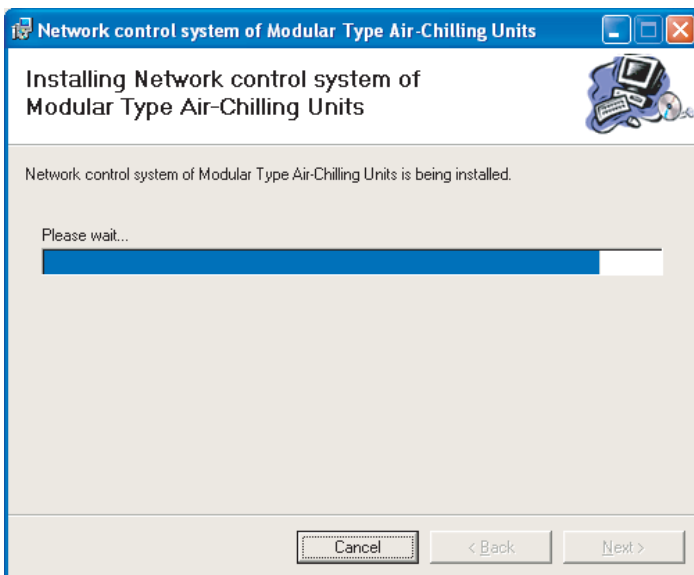
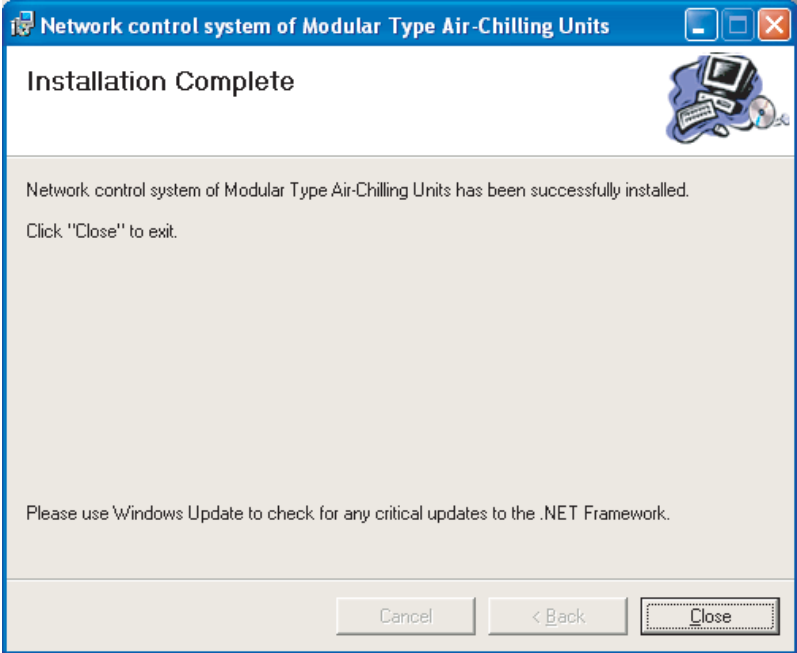

Fig. 2-28
Fig. 2-29
4) Installation window as Fig. 2-28, until the window as Fig. 2-29 displays, and then click “Close” to finish the installation: